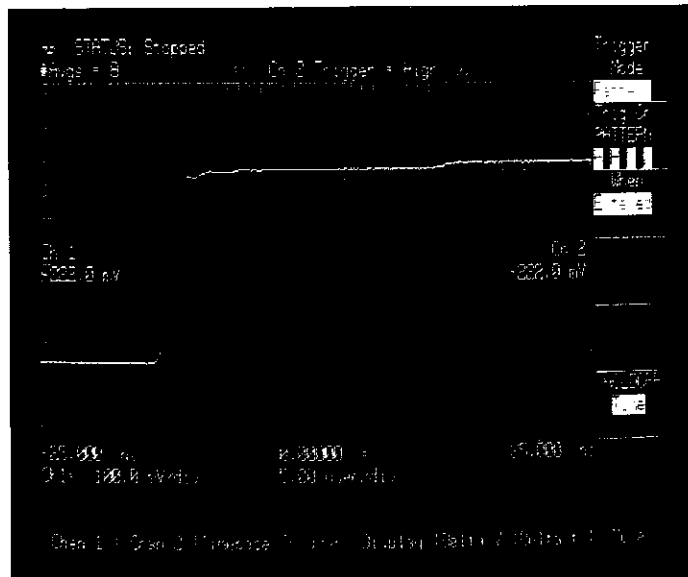
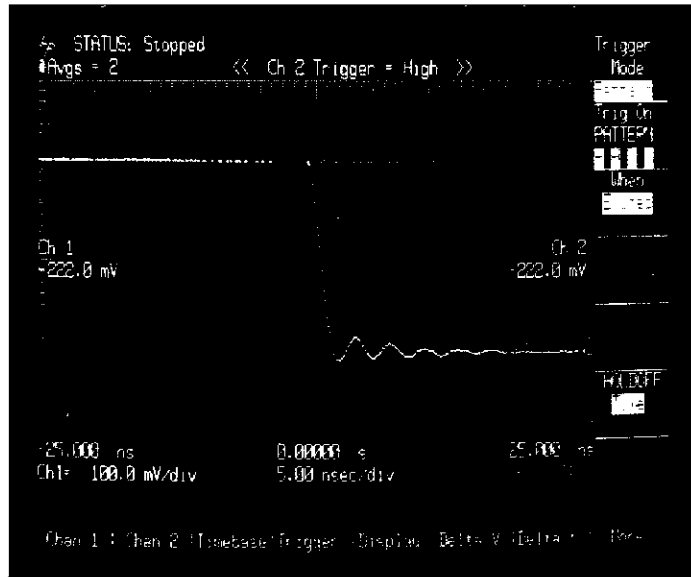

Figure 7-16. Pattern When Entered "HHXX"
Figure 7-17. Pattern When Exited
*In figures 7-16 and 7-17, the signal path for chan 2 is approximately 2 metres longer than that of the signal path for chan 1. This provides the time differential between the two signals*
This menu allows triggering when entering or exiting a defined logic pattern. If the When Entered function is selected, the unit will trigger on the last pulse edge that makes the pattern true (see figure 7-16). If the When Exited function is selected, the unit will trigger on the first pulse edge that makes the pattern false (see figure 7-17)